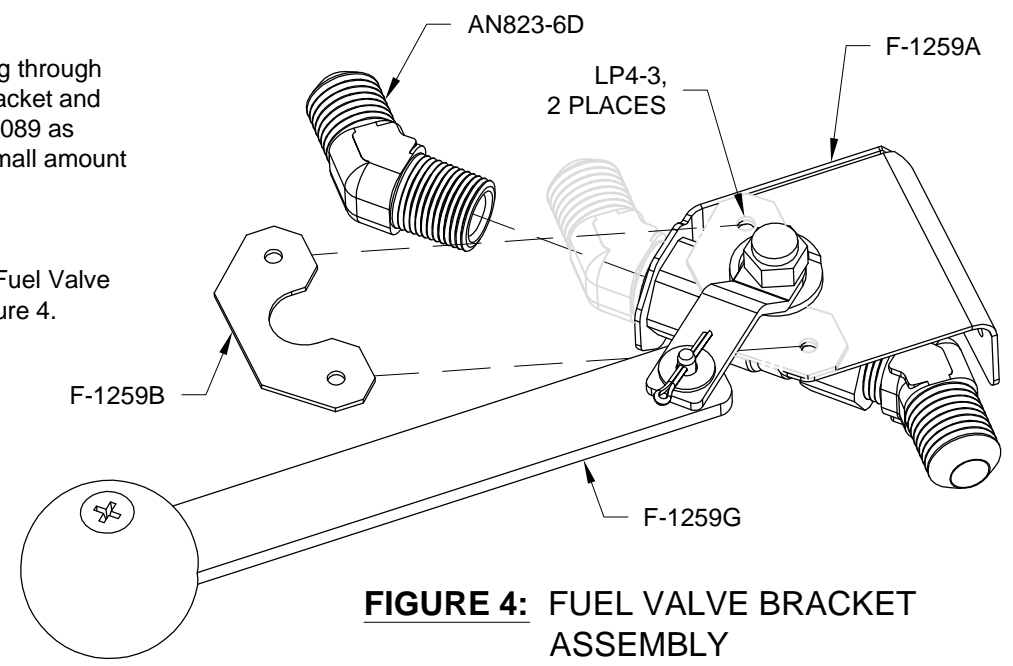

FIGURE 4: FUEL VALVE BRACKET ASSEMBLY
Step 6: Install the fluid fitting through the F-1259A Fuel Valve Bracket and into the FUEL VALVE 4161089 as shown in Figure 4 (use a small amount of pipe thread sealant).
Step 7: Rivet the F-1259B Fuel Valve Clip per the call-outs in Figure 4.